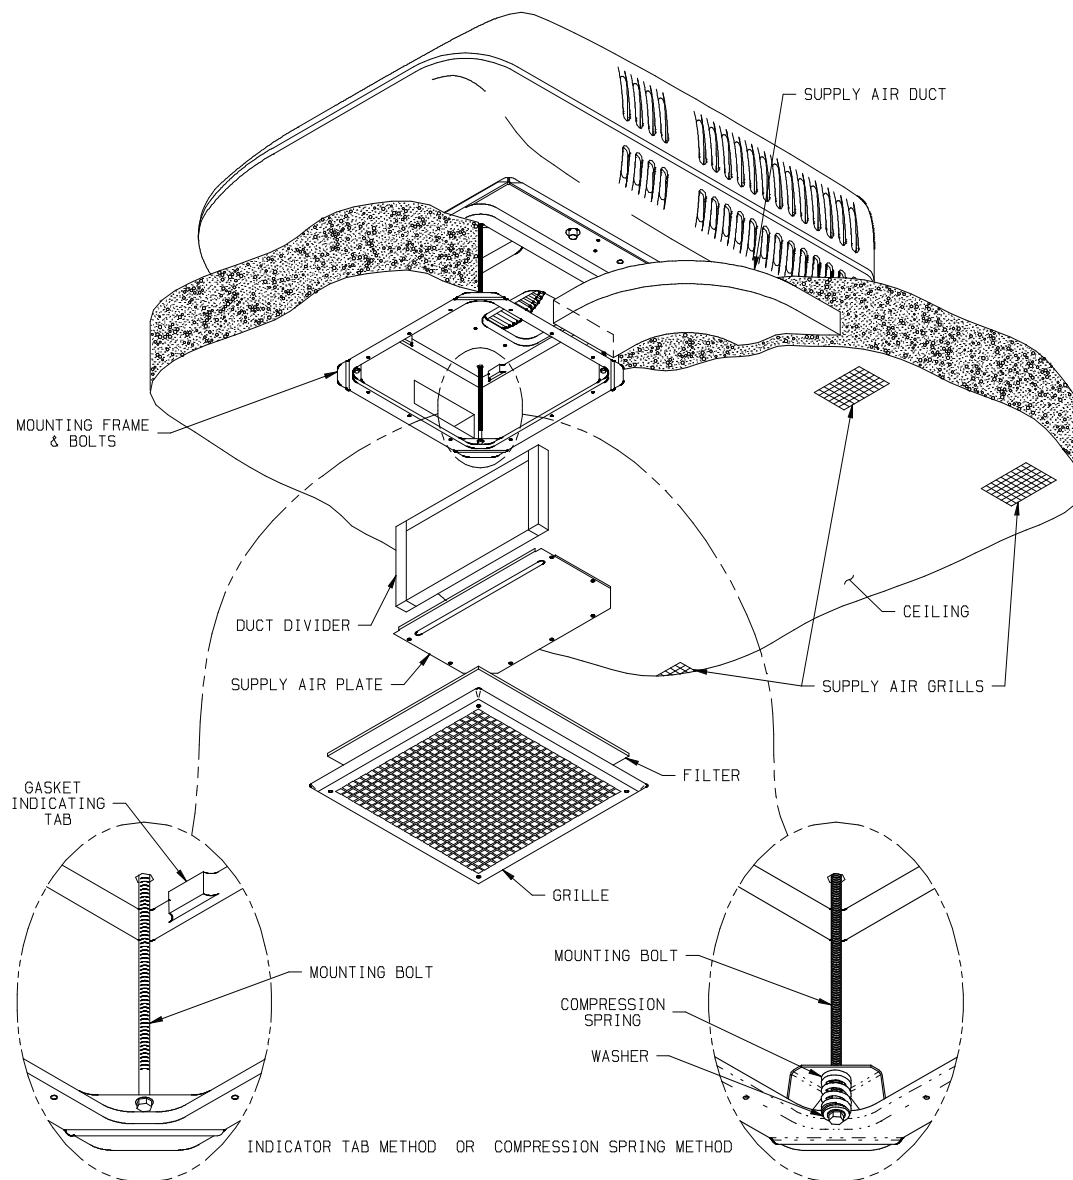

FIGURE 1
1. The field fabricated supply ducting must attach to both sides of the ceiling plenum. A minimum of two ducts are required, with one duct attached to each side of the plenum (See Figure 1).
A. Mounting (Refer to Figure 1)
B. Refer to Figure 1